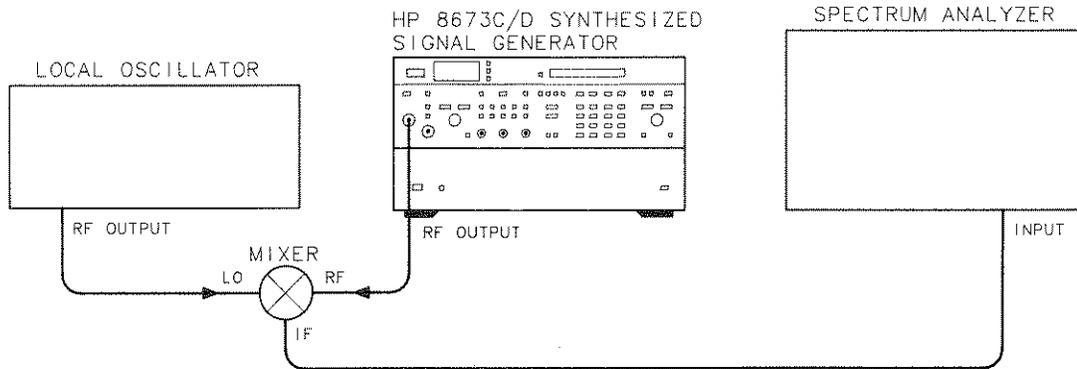

Figure 4-17. Single-Sideband Phase Noise Test Setup
1. Connect the equipment as shown in Figure 4-17.